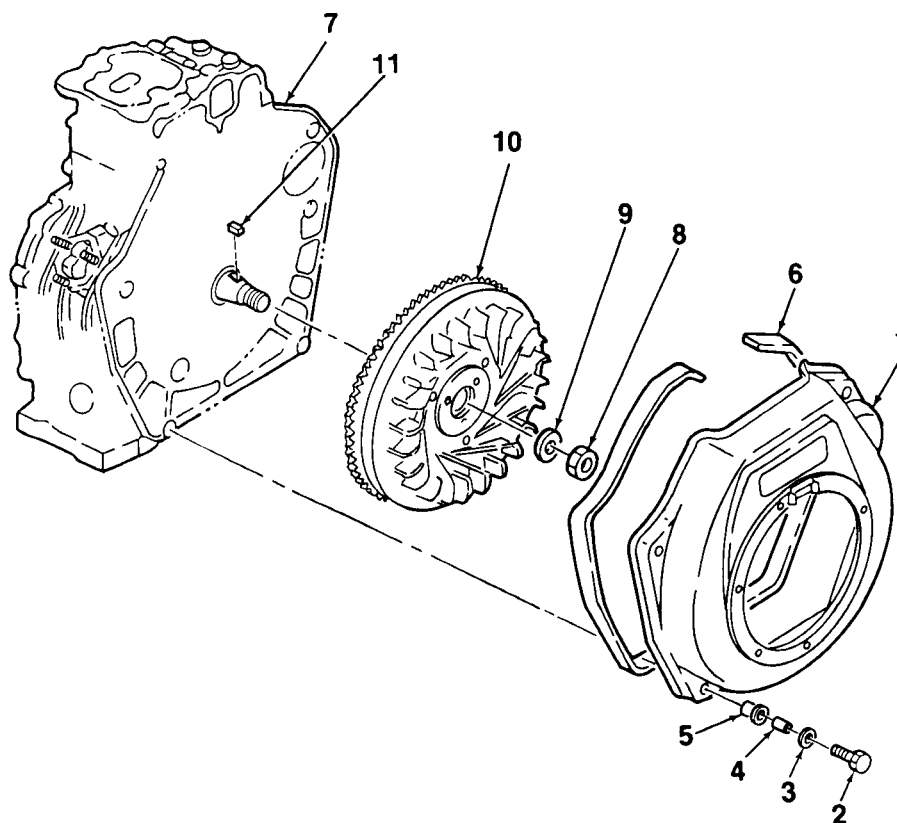

Figure 5-6. Flywheel Installation
6. Install key (11, Figure 5-6). Mate flywheel (10) to crankshaft, taking care not to damage crankshaft threads. Install washer (9) and nut (8). Lock flywheel in place using locking handle and tighten nut to 87 to 94 ft-lbs. (1200 to 1300 kg-cm).
7. Install seal (6) onto flywheel housing (1).
8. Mate flywheel housing (1) to cylinder block (7). Secure using four spacers (5), collars (4), washers (3), and screws (2).